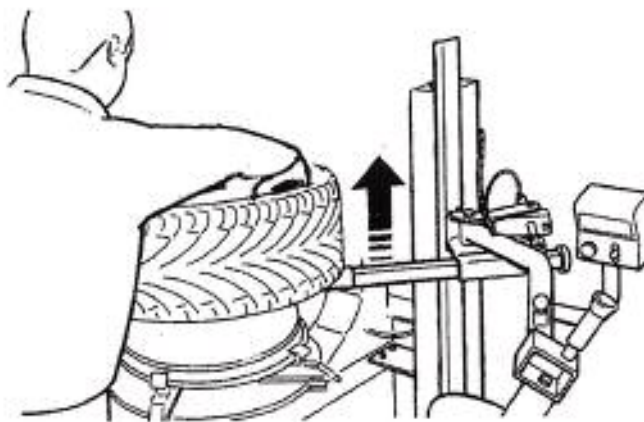

Figure 13
4. Once the upper bead is removed, to remove the tire from the wheel, you can use the supplementary roller as show in Figure 13. Position the roller so that the end of the roller wheel is in contact with the edge of the wheel flange, this establishes the correct diameter position. While holding the tire up, raise the roller and rotate the turntable. The bead will be pushed up over the top wheel flange, thus removing the tire. Have the tilt tower in the rear position to allow for maximum working area.